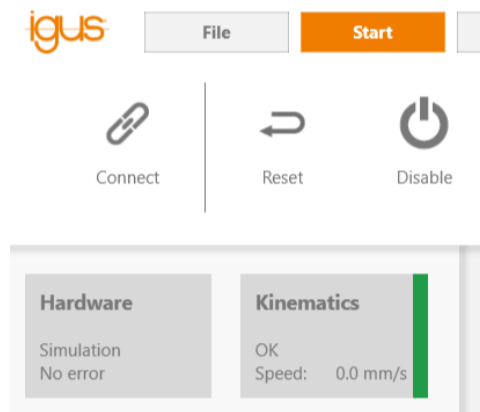

Figure 21: Buttons for connecting to the hardware, resetting errors and activating the motors, referencing and "Status" display.
The real robot can be controlled in the same way as the simulated one, only the hardware must first be connected and activated by clicking the "Connect", "Reset" and "Activate" icons in the "Physical Robot" button group in the "Motion" tab (see Fig. 21). Depending on the type of robot the axes must then be referenced.
2. Press the buttons "Connect", "Reset" and "Activate" (see fig. 21).
3. Click the "Reference" button (Fig. 21) in the "Start" tab (or "Referencing" in the "File" tab) to open the referencing window.